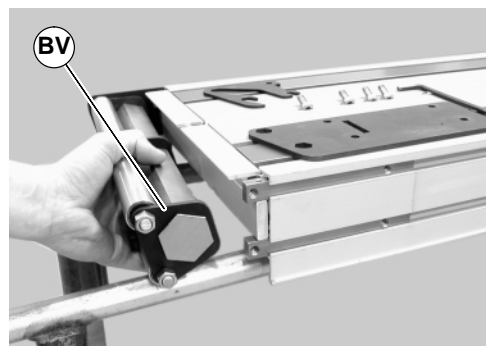

Figure 57
4. Slide the transfer tail pulley assembly (BV of Figure 57) out of the headplate on the opposite side.